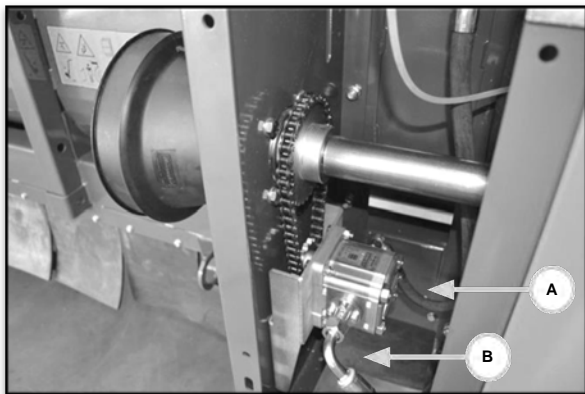
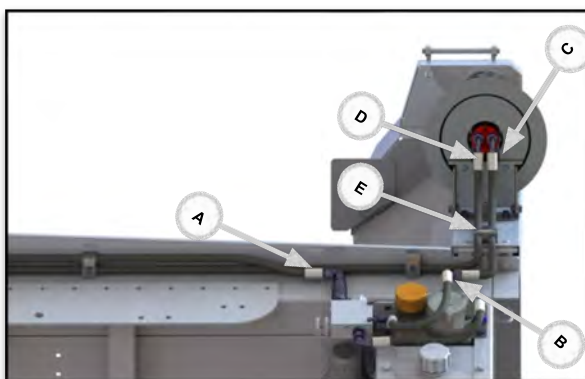

Fig. 116
Fig. 118
- After installing, remove the centre of the three flat-headed screws in the side hood (E) and fit the hose clamps (see Fig. 118 and Fig. 116)